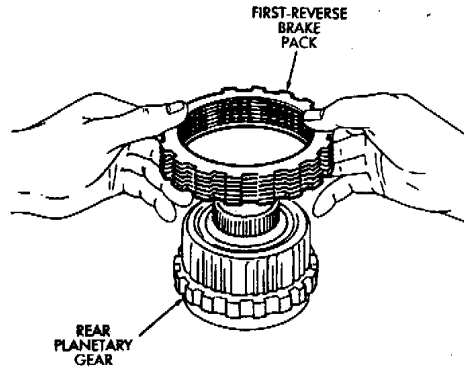

Fig. 4 Removing/Installing First-Reverse Brake Pack
- (7) Verify one-way clutch operation. Hold gear and turn inner race in both directions. Race should turn freely counterclockwise, but lock when turned clockwise.
- (8) Install planetary gear in ring gear.
- (9) Assemble clutch discs and clutch plates (Fig. 4). Sequence is disc first, then a plate. Use seven discs and plates in a 6-cyl. transmission and six discs and plates in a 4-cyl. transmission.
- (10) Install brake pack on planetary gear (Fig. 4).